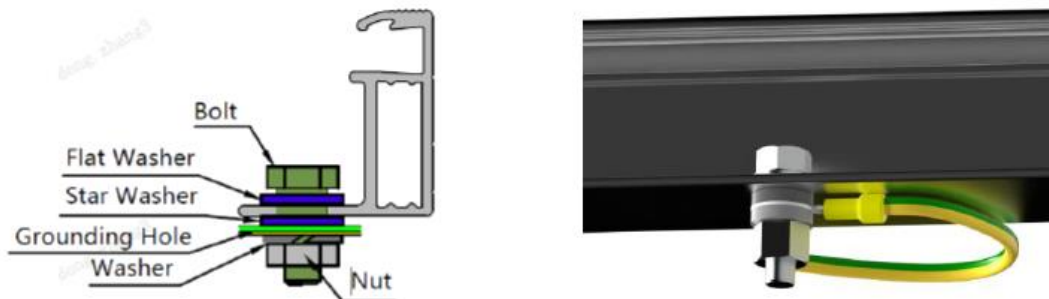

Figure 4: Grounding of PV Module
- 9) ECO GREEN ENERGY recommends two types of grounding: bolted grounding, shown in Figure 4, and clamp grounding. The bolts should be tightened when grounding is installed and no damage should be done to the module frame or the grounding wire.